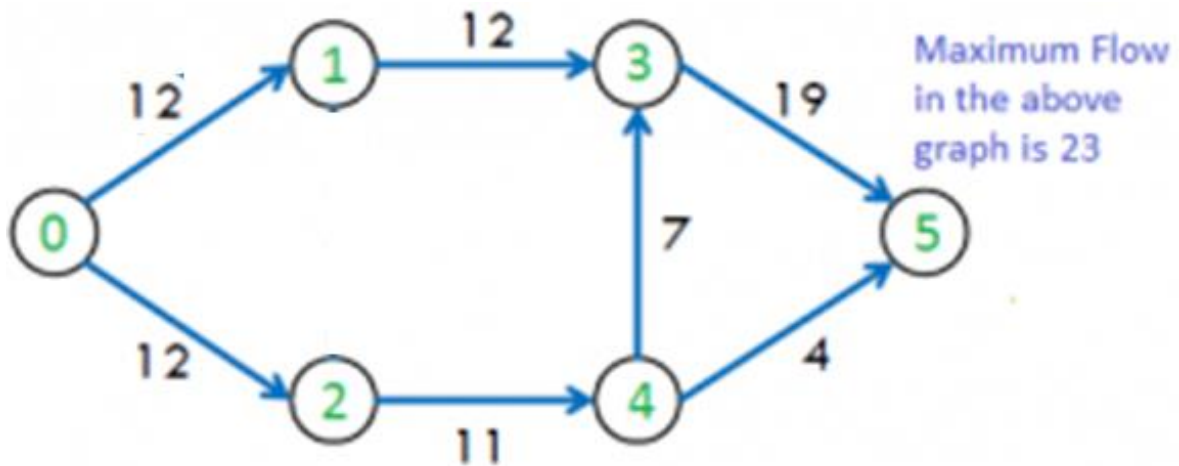

Figure 22
Step 3 : Identify the possibility of additional flow, if any within the network. In our case, the network is operated at maximum capacity (refer figure 22). Therefore, for given network the maximum possible flow is 23 units from source to sink.